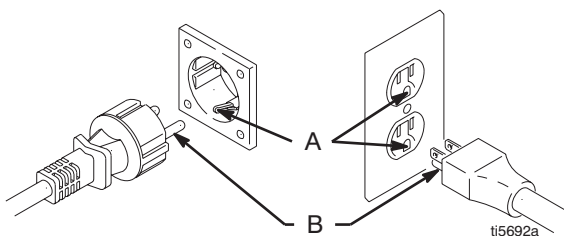

FIG. 1
- Fig. 1. 120 Vac: requires a 120 Vac, 60 Hz, 20A (15A for 248949) circuit with a grounding receptacle (A). 230 Vac: requires a 230 Vac, 50 Hz, 13A circuit with a grounding receptacle (A). Never use an outlet that is not grounded (A) or an adapter.